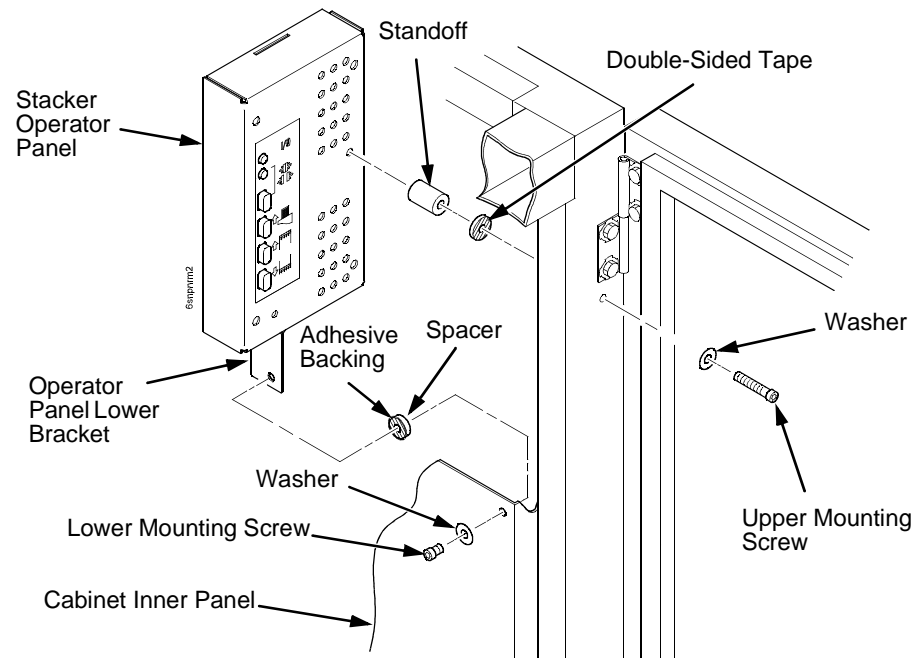

Figure 92. This figure shows how to install the stacker operator panel in the rear of the cabinet.
23. Apply the double-sided tape to one end of the operator panel standoff. Remove the paper backing and hold the standoff inside the cabinet while you insert the upper mounting screw and washer through the hole in the frame. Use the screw as a guide to align the standoff with the hole, then press the standoff against the inside wall and push the upper screw in as far as it will go. Now maneuver the operator panel into position and install the upper mounting screw finger tight in the operator panel. (Figure 92.)
- Peel the backing off the spacer adhesive. (Figure 92.)
- Align the spacer with the holes in the lower bracket and inner panel. (Figure 92.)
- Press the spacer adhesive against the inner panel. (Figure 92.)
25. Install the lower mounting screw and washer. Tighten the upper mounting screw. (Figure 92.)